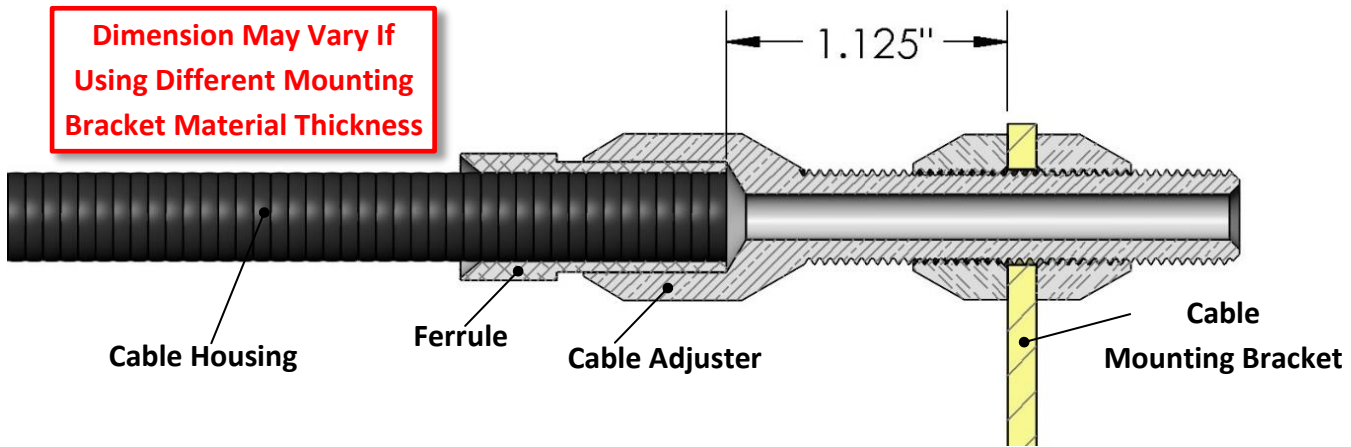

Figure 2 – Cable Housing Cutting Location Example (Cross Section View)
**NOTE: This distance allows proper adjustment of the Cable Housing. This distance will possibly fluctuate if using other mounting locations.** See Figure 2 below for reference.